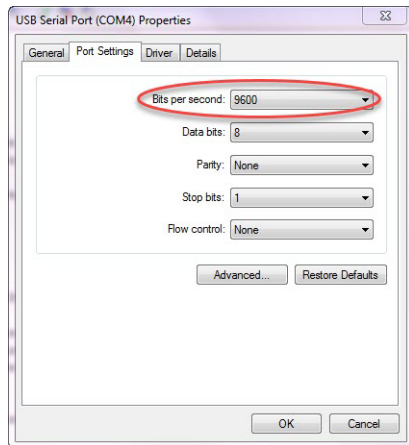

Figure 7. Setting port BPS rate.
1. Input the Fluid Temperature Compensation Coefficient (FTCC) values into the Sensor Info tab. See Figure 7. Setting Initial Parameters. CR288 now automatically correct data for fluid temperature changes.